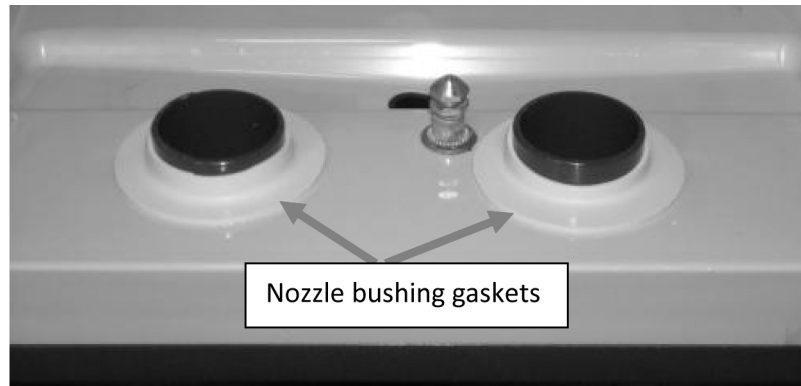

Figure 25. Nozzle bushing gaskets - proper installation
1. Remove natural rubber nozzle bushing gasket (see Figure 25) and inspect it and silicone RTV. If cracked, clean off RTV, and re-apply using kit P/N 729011013 per instructions provided with kit.